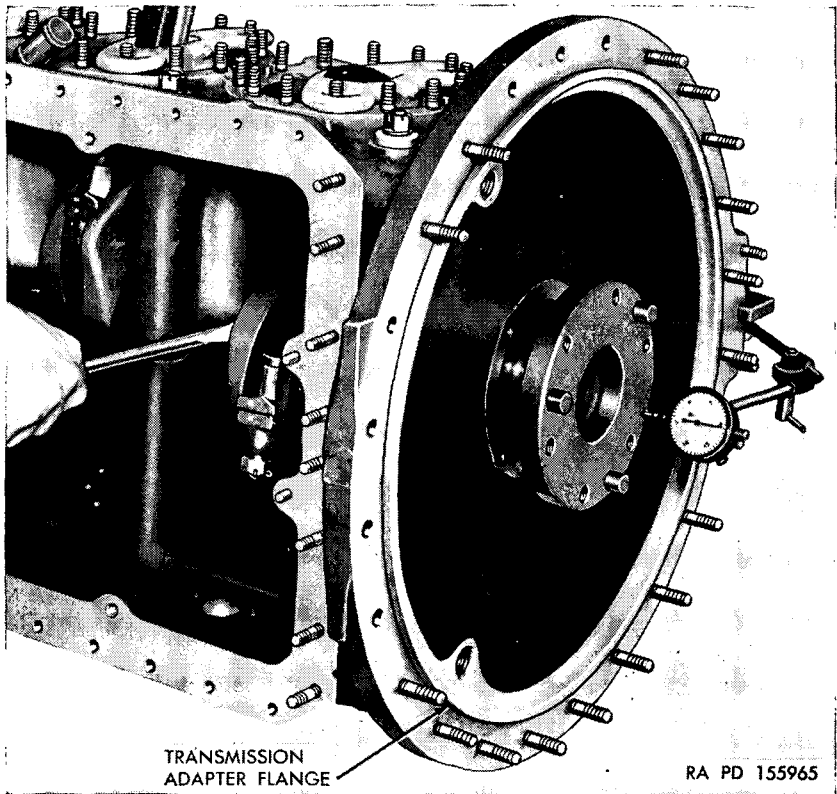

Figure 95. Checking crankshaft end play.
c. Check Crankshaft End Play (fig. 95). Install a dial indicator to the flywheel flange. Insert a pinch bar or large screw driver between the crankshaft counterweight and the main bearing web. Pry the crankshaft through its limits of end play. End play should be 0.008 to 0.012 inch for new parts and 0.008 to 0.017 inch for reconditioned parts. If end play is not within these limits, disassemble the crankcase and install a new thrust main bearing.
d. Crankshaft Oil Seal. The crankshaft oil seal with spring assembly (CC) should be inserted in the recess in the crankcase, with the parting line of the seal staggered so it will not be on the split line of the crankcase (the flat face is away from